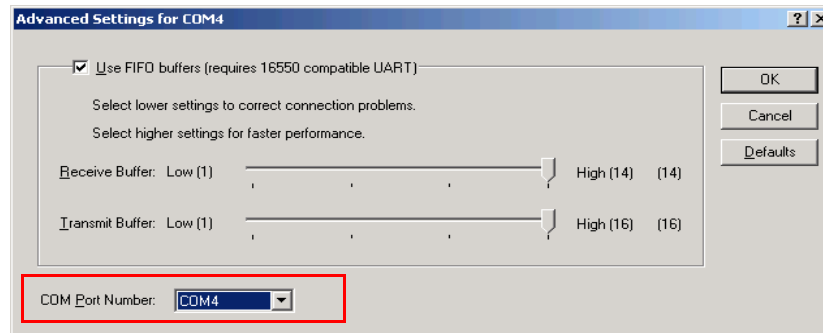

**Figure 8-95 Device Manager Window**
- 9.) .Double click "USB to Serial Bridge" as shown Figure 8-95 "Device Manager Window" on page 8-